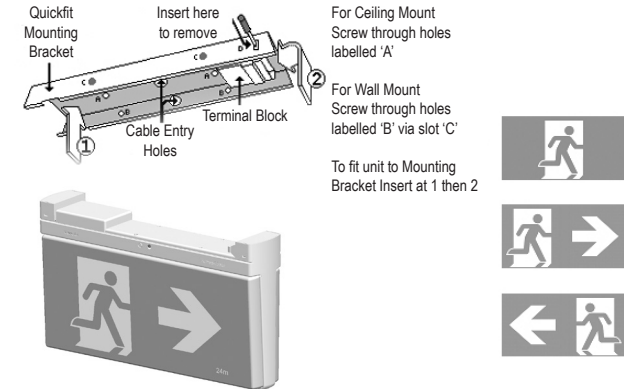

Figure 2: Quickfit Insertion Diagram & Internal View
2. If all looks okay, installation can proceed. Take the mounting bracket and whilst holding it into place against the ceiling or wall, use a pencil to mark the position of the screw holes (at A or B in Figure 2) and cable entry position through the bracket onto the ceiling or wall as appropriate. Make sure to allow at least 50mm of free space to the right hand side of the final location of the unit to allow for the sliding function of attaching the unit to the mounting bracket. If need be, turn the bracket around and swap the diffuser with the back plate to permit room for inserting and removing the unit from the mounting bracket. Orient the bracket in such a way as to make the LED and push button readily visible and accessible when the unit is installed.
5. Attach the unit to the mounting bracket by aligning the top left hand end of the unit (the end without the protruding electrical connecting metal lugs) with the large cut-away slot towards the left hand end of the bracket. Slip the left hand end of the unit up into the slot in the left hand end of the bracket (Step (1) in Figure 2) and hold the unit horizontal to and parallel with the bracket. It should be approximately 50mm to the right of its final destination. Simply slide the unit (Step (2) in Figure 2) 50mm to the left along and into the bracket to engage the connections and the locking tab. Once in place, the unit cannot be removed from the bracket without the use of a tool (a small screwdriver) to push in the locking tab at 'D' in Figure 2. Ensure the correct pictograph inserts have been attached to the diffuser assembly.
Gently insert a small screwdriver into the slot (at 'D' in Figure 2) on the front of the bracket towards the right hand end of the fitting, to ease the locking tab into the fitting and away from the bracket. The unit is then free to slide to the right along the bracket for about 50mm, at which time the slots line up and it can be lowered away from the bracket, allowing the two to separate. The unit will automatically switch into emergency mode because it has been removed from the power supply. It will stay on emergency until such time as the battery cut-off threshold is reached or it is reconnected back onto the power supply, whichever happens first. When the unit is reconnected to the supply, it will need time to recharge its battery before it will be capable of a full length discharge again. The ability of the unit to operate on emergency is determined by the age, charge level, operating temperature conditions and environmental circumstances of the battery in the unit.